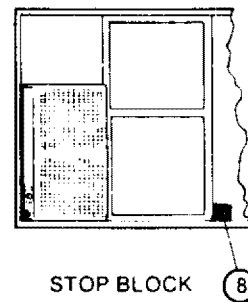

FIGURE 5
7. Fasten a stop block next to the duct to prevent the duct from shifting and unhooking from the window frame (Figure 5). **IF THE DUCT UNHOOKS THE COOLER MAY FALL.**